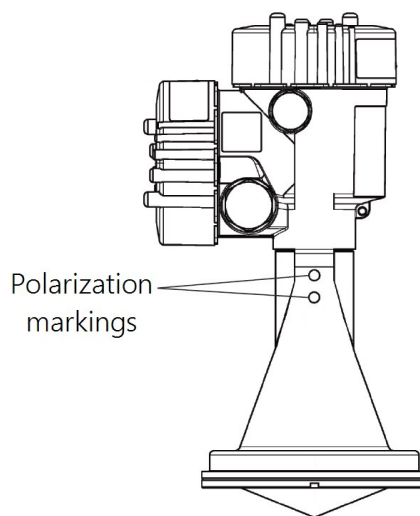

FIGURE 7-3. Polarization markings
1. Orient the sensor such that one of its polarization markings is aligned or parallel with the wall or pier (FIGURE 7-3 (p. 14)). The polarization markings are designated by the mounting hex screws (M5-0.8 x 10 mm, ISO 4762/DIN 912 A2-70, stainless steel socket cap).